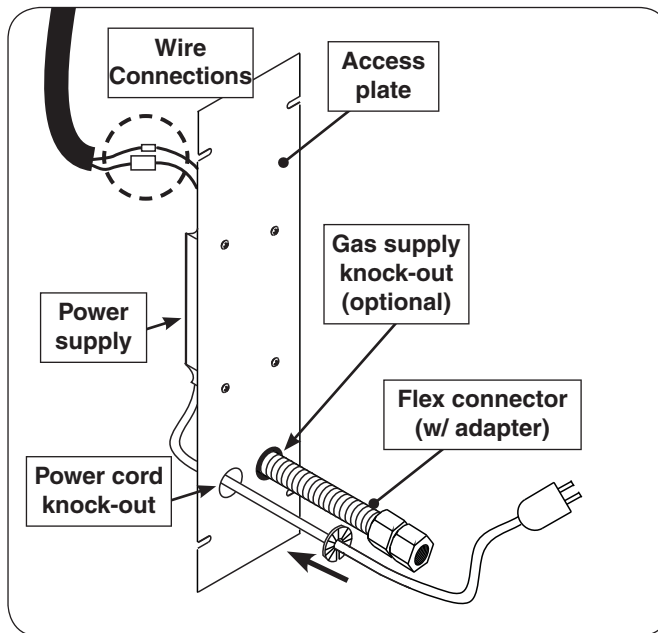

Fig. 16-1 Access plate view & install orientation
A power supply is pre-mounted to the access plate. For ease of installation, disconnect the power supply from the wire harness extension. Locate the wires coming from the inside of the post to the power supply and carefully disconnect (see Fig. 16-1 and 16-2).
4. Install the bushing onto the power cord and slide the bushing up against the access plate knock-out hole and snap into place. See Fig. 16-1.
2. Remove the plastic grommet (attached to the flex connector) and insert it into the newly created opening. Then route the flex connector through the opening. See Fig. 16-1 and 16-2.